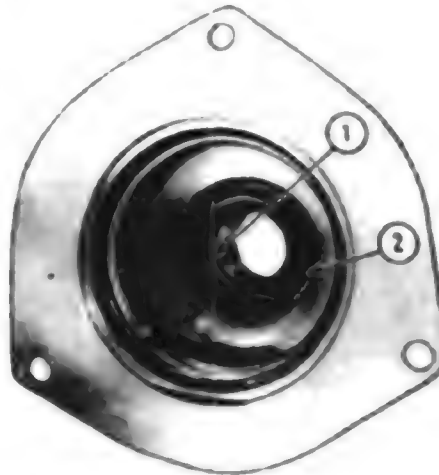

Fig. 73—Install TA input (clutch) shaft oil seal (1) with lip towards rear and pto input shaft seal (2) with lip towards front of TA housing.
To reassemble, place thrust washer (29) on shaft (30), then press bearing (27) on shaft and install snap ring (26). Fill seal ring grooves on shaft with petroleum jelly and carefully install seal rings (25). Make certain ends of seal rings are correctly locked and that rings and shaft are concentric. Install new TA input (clutch) shaft oil seal (1—Fig. 73) in TA housing with lip of seal towards rear until seal is 0.030 inch below seal bore. Install new pto input shaft seal (2) with lip towards front until seal is flush with front of seal bore in housing. Install shaft and bearing assembly in housing (23—Fig. 72), being careful not to damage seal rings and oil seals. Install retaining ring (28). Carefully install TA drive gear, sprag clutch and oil seal (32, 33 and 34). Check operation of sprag clutch. TA drive gear should turn free on shaft when gear is rotated in clockwise direction (viewed from splined end of shaft) and should lock-up to shaft when gear is rotated counter-clockwise. Clean and degrease shaft, keyway and clutch cup bore and apply "Loctite" to